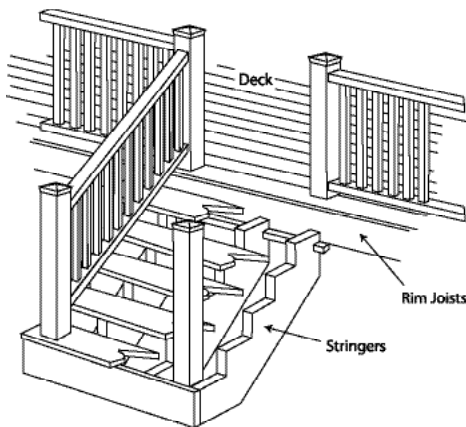

Figure 6
1. Position two line posts at top of stairway with the desired spacing and secure each post with the appropriate bracket (Fig. 6).